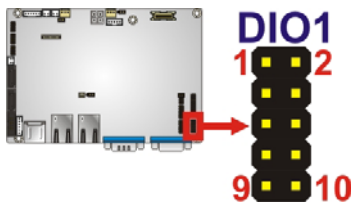

Figure 3-5: Digital I/O Connector Location
- CN Location:** See **Figure 3-5**